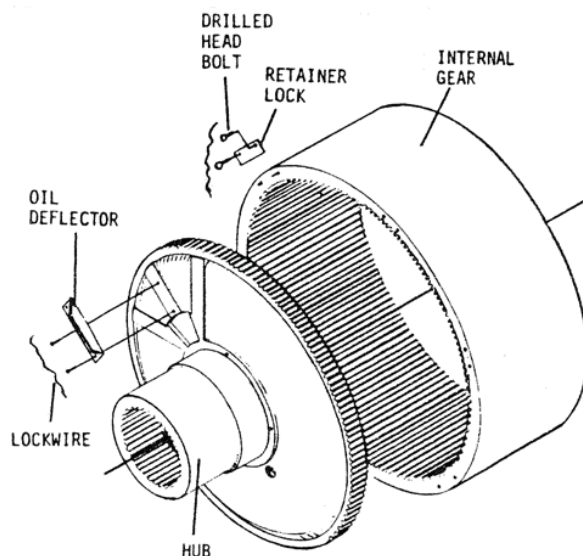

FIGURE 7
A. Assembly Preparation - Figure 7.